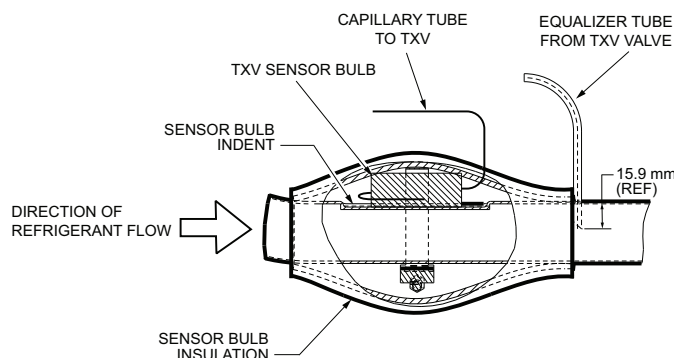

Fig. 20 — TXV Sensor Valve Insulation
10. Attach the TXV bulb in the same location as the original (in the sensing bulb indent), wrap the bulb in protective insulation and secure using the supplied bulb clamp. See Fig. 20 and 21.